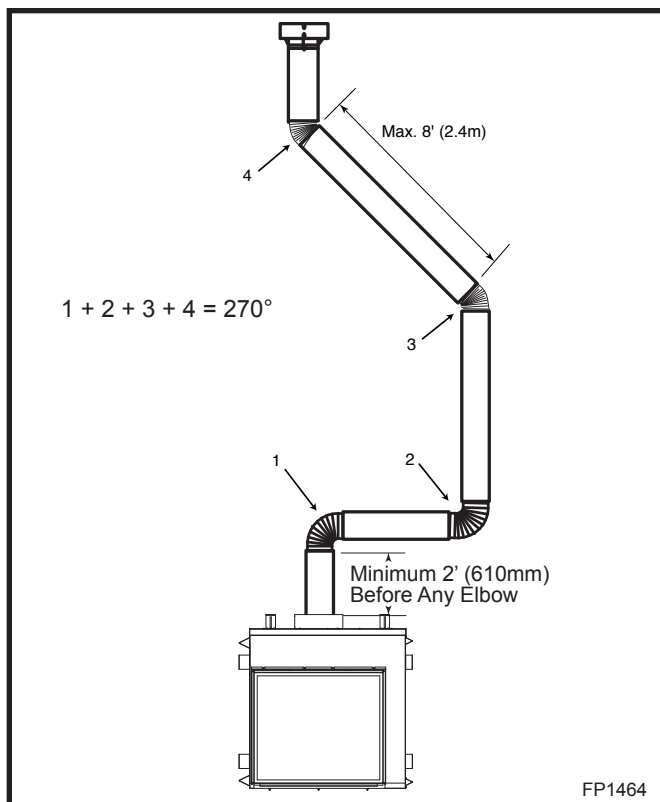

Fig. 33 Typical offset application.
- Up to two (2) 30° or 45° elbows may be used within the horizontal run. For each 30° or 45° elbow used on the horizontal level the maximum horizontal length must be reduced by 18" (457 mm).
- Two sets of 30° or 45° elbows offsets within these vertical installations. From 0 to a maximum of 8' (2.4 m) of vent pipe can be used between elbows. (Fig. 33)